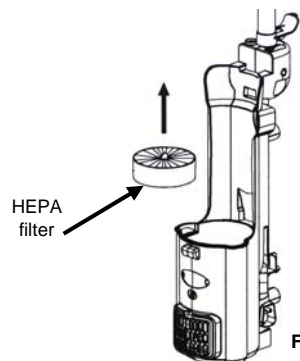

Fig. 25
- Hold the HEPA filter by the center tab and lift it up. (Fig. 25)